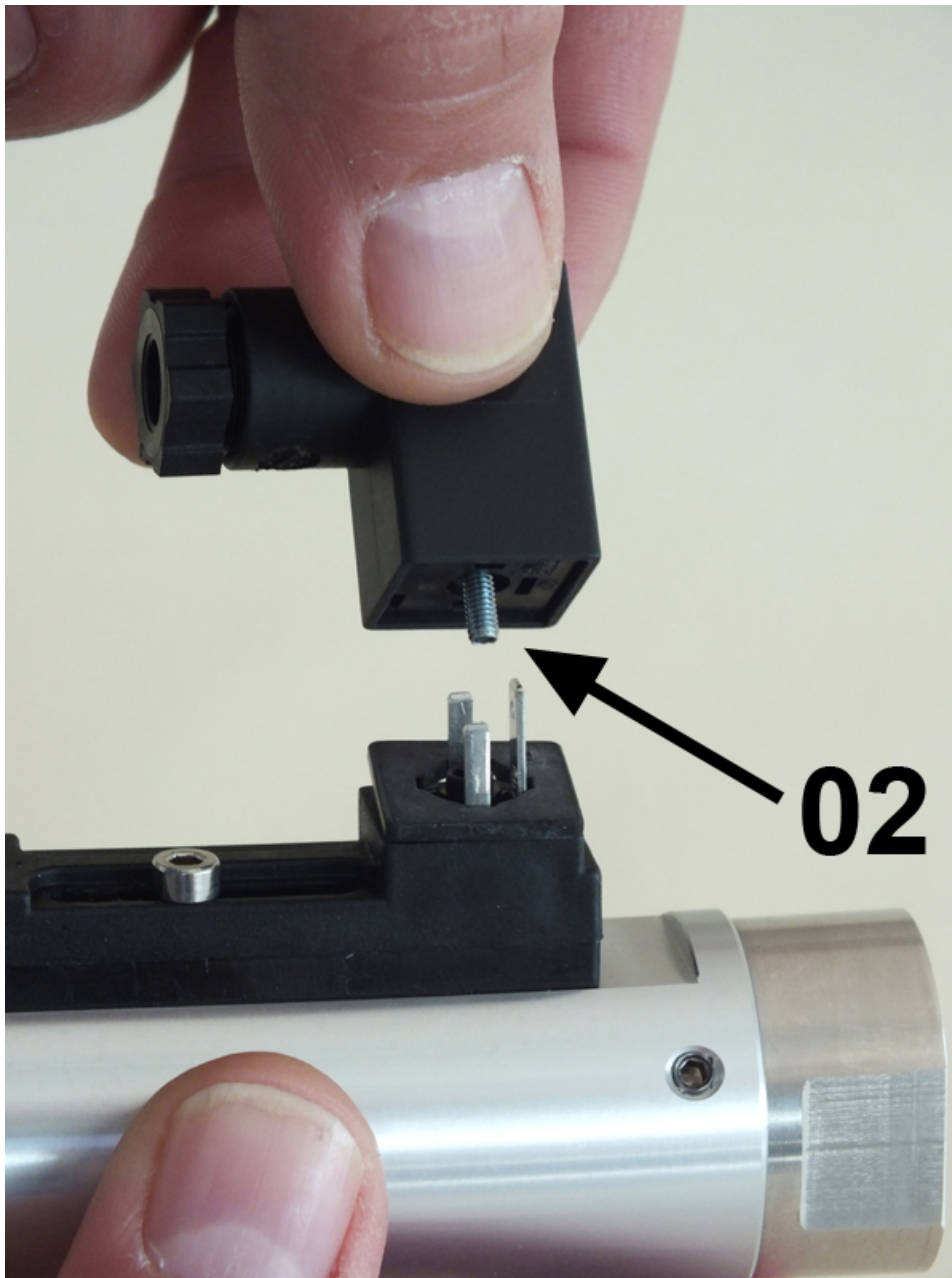

Fig. 54: Remove female socket
2. ➤ Remove the female socket and gasket (*Fig. 54/02*) by pulling upwards.